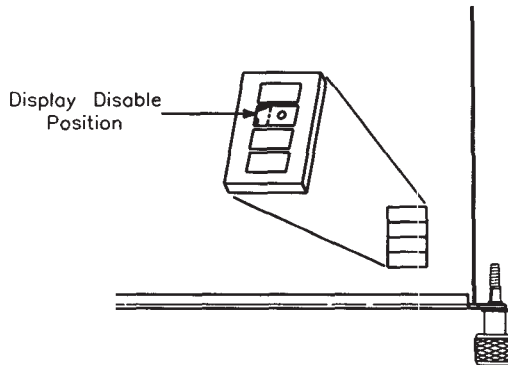

Figure 5-37.
- e. Locate the Display Disable switch (see Figure 5-37).